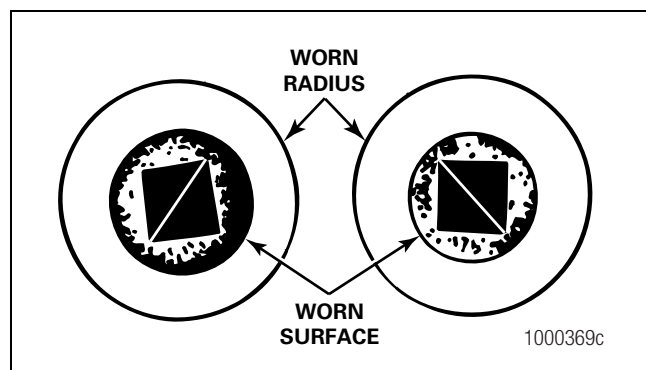

Figure 5.7
- The center of the large diameter end of the rollers is worn level or below the outer surface. Figure 5.7.
- The radius at the large diameter end of the rollers is worn to a sharp edge. Figure 5.7.